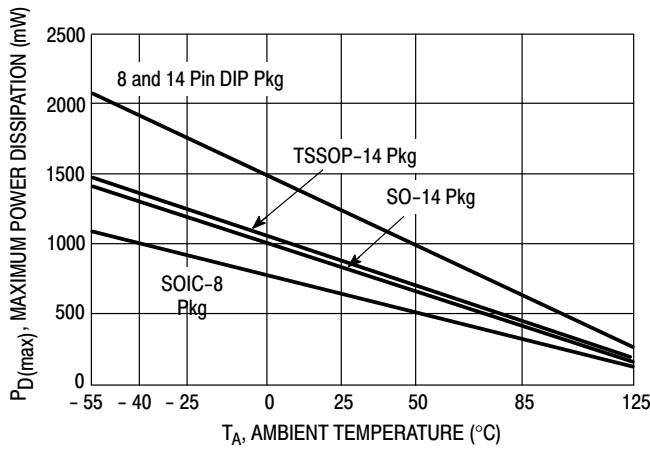

Figure 2. Maximum Power Dissipation versus Temperature
3. Power dissipation must be considered to ensure maximum junction temperature ( $T_J$ ) is not exceeded. (See Figure 2)